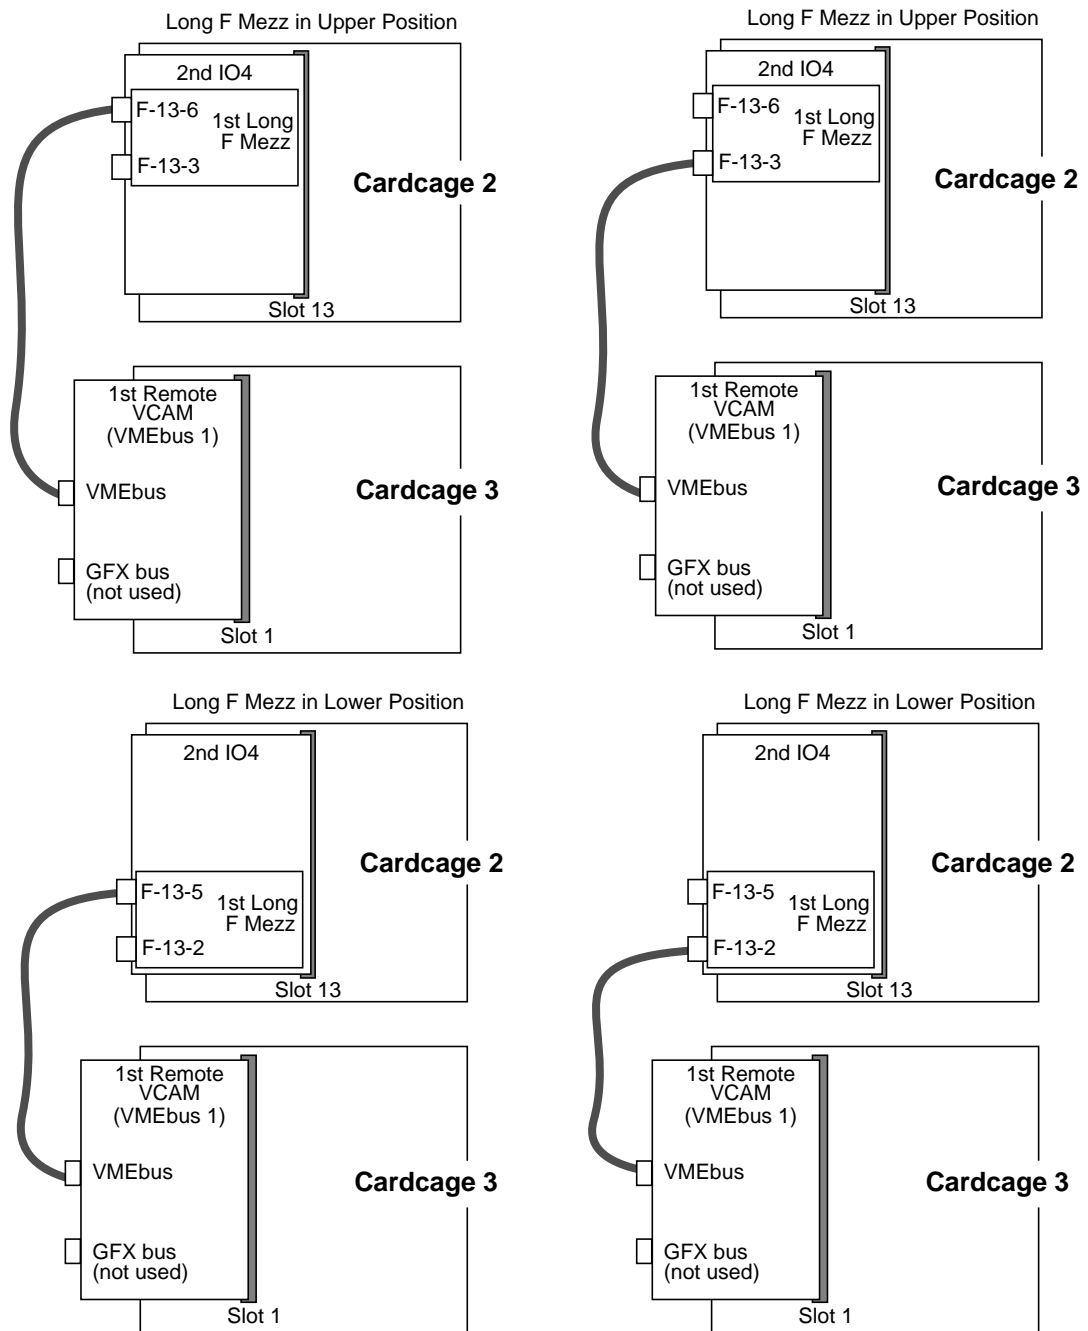
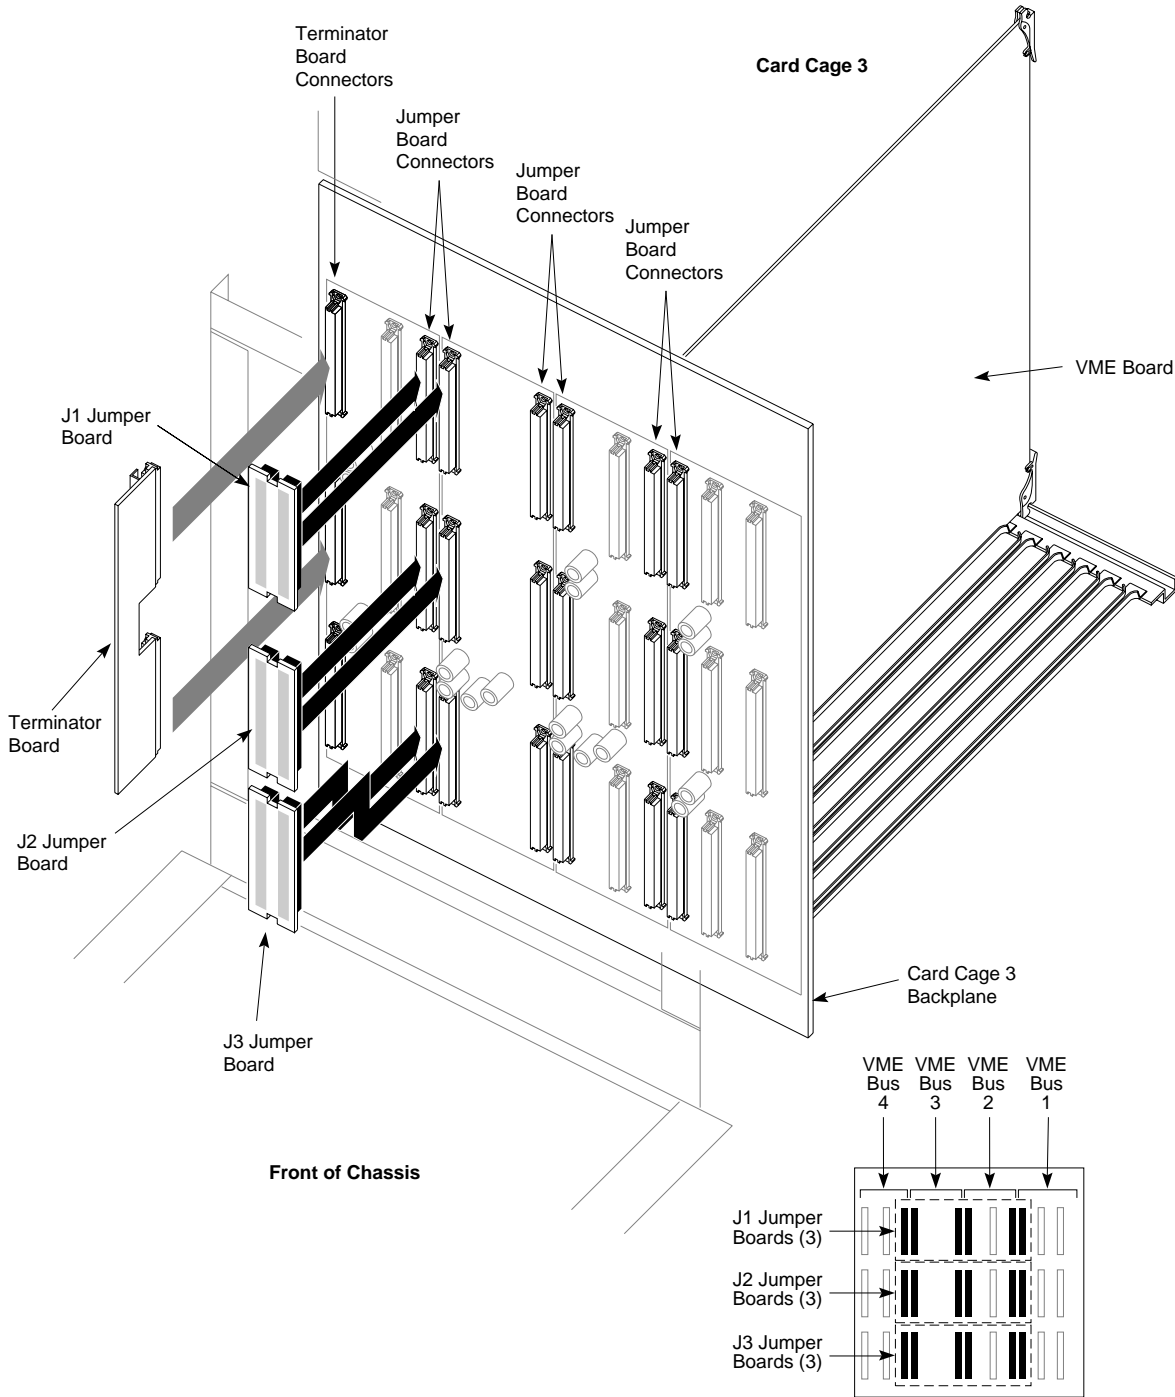

Figure 3-66 Cabling for One Cardcage 3 VMEbus with a Single Long F Mezz Board
Figure 3-67 Jumper Board Configuration for One VMEbus
5. Attach a silver mylar ribbon cable to each of the IO4 board connectors as shown in Figure 3-66 and Figure 3-67. Route the cables from CC2 down through the cable ports immediately behind the main I/O panel. Attach the remaining end of the cables to the upper connector on each of the Remote VCAM boards.